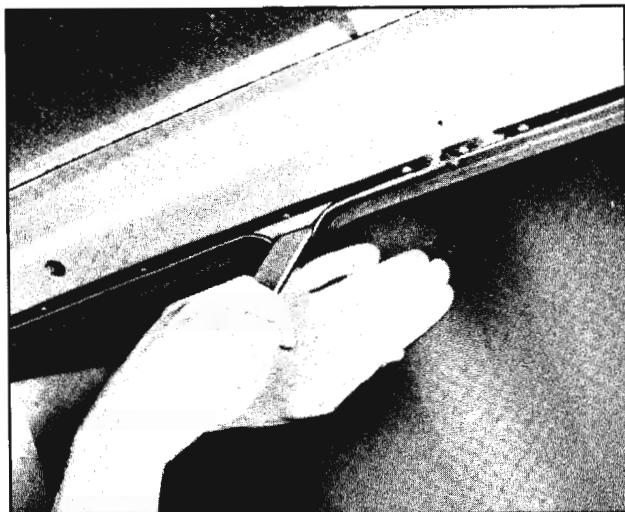

Fig. 16-6 Windshield Glass Removal
7. On inside of body, loosen lip of rubber channel from pinchweld flange along top and sides of windshield as follows: with palm of hand, apply pressure to glass near edge, (Fig. 16-6) at the same time, use a blunt putty knife and carefully assist rubber channel over pinchweld flange.
6. On inside of body, loosen lip of rubber channel from pinchweld flange along top and sides of windshield as follows: with palm of hand, apply pressure to glass near edge, (Fig. 16-6) at the same time, use a blunt putty knife and carefully assist rubber channel over pinchweld flange across top and sides only.